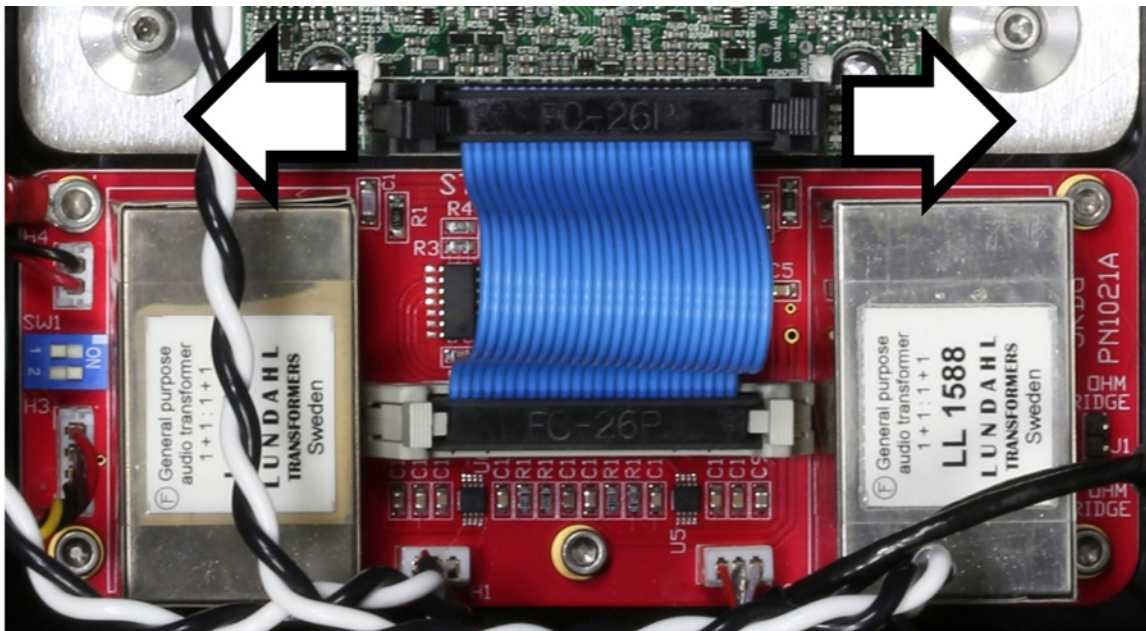

Figure 6: Blue Ribbon Cable in Closed Position
3. Release blue ribbon cable from green circuit board with thumbs . (Figure 6)
7. Return blue ribbon cable to original position and lock in place. (Figure 6)